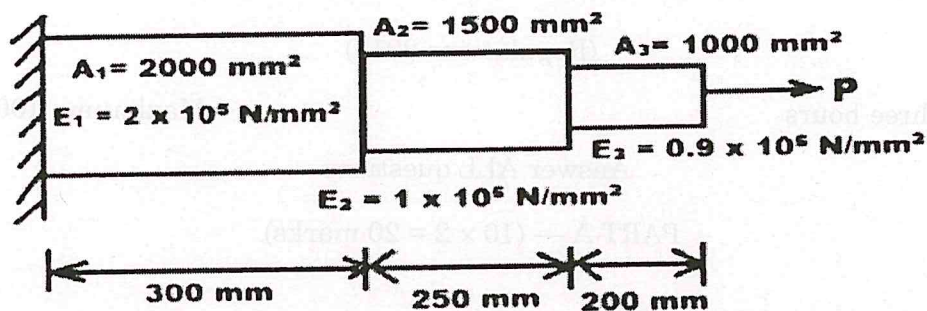

Figure 12(a)
12. (a) A bar is subjected to an axial force $P = 30$ kN as shown in figure 12(a). Determine the nodal displacement, stresses in each element and reaction forces.